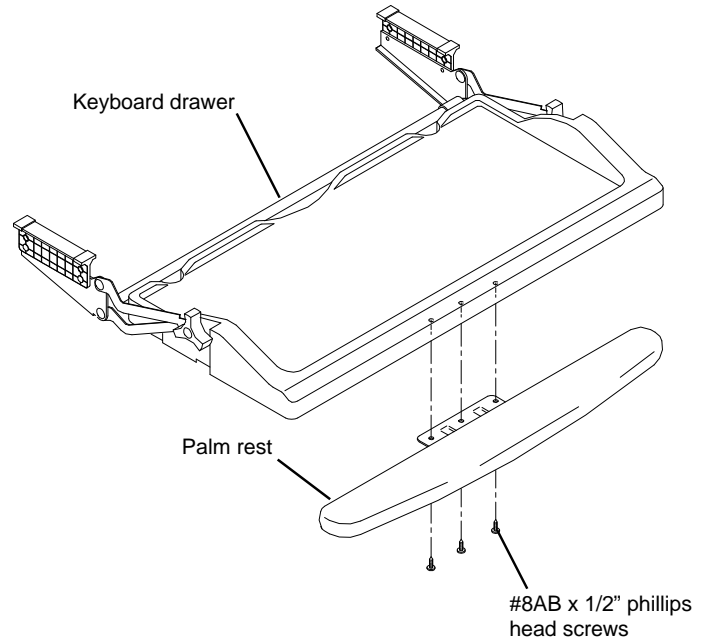

Figure 6
6. Attach the **Palm Rest** to the front of the keyboard drawer using the pre-drilled holes and three #8AB x 1/2" phillips head screws provided. See **Figure 6**.